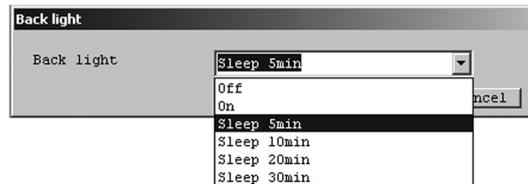

Fig.82
- ③ Click the triangle on the right side of "Back light" as shown in Fig. 82, and select the time to set from the drop-down list.